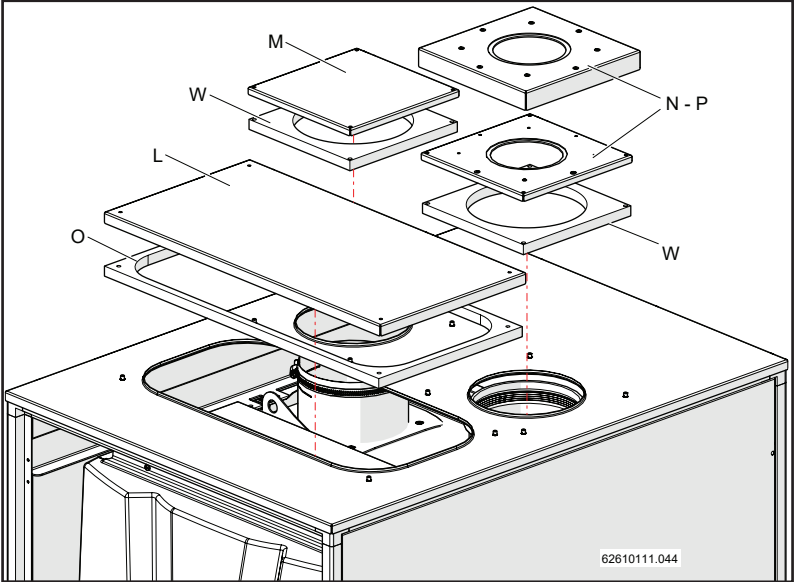

Figure 15-25
- 14.- Attach, using screws "D", the shelter for the electrical connections "L", for the intake "M" and for the outlet "N" (or "P") to the top cover (figures 15-25 and 15-26); remembering to insert gaskets "O" and "W" as shown in figure 15-25.
- If you have a flue gas outlet 110 mm in diameter, use outlet covers "N" in figure 15-25.
- If you have a flue gas outlet 80 mm in diameter, use outlet covers "P" in figure 15-25.